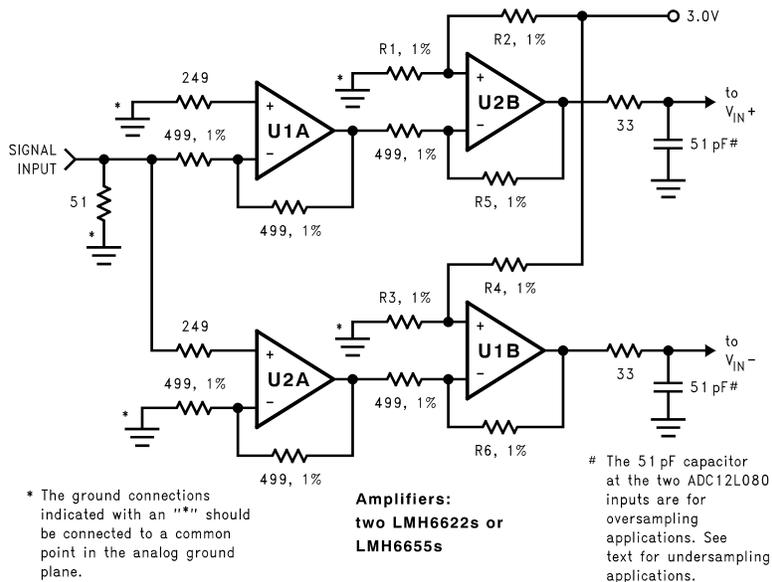

Figure 39. Differential Drive Circuit of Figure 38
The  $V_{IN+}$  and the  $V_{IN-}$  inputs of the ADC12L080 consist of an analog switch followed by a switched-capacitor amplifier. The internal switching action at the analog inputs causes energy to be output from the input pins. As the driving source tries to compensate for this, it adds noise to the signal. To minimize this, use 33 $\Omega$  series resistors at each of the signal inputs with a 51 pF capacitor to ground, as can be seen in Figure 39 and Figure 40. These components should be placed close to the ADC because the input pins of the ADC is the most sensitive part of the system and this is the last opportunity to filter the input. The 51 pF capacitor value is for Nyquist applications and should be replaced with a smaller capacitor for undersampling applications. The resulting pole should be at 1.7 to 2.0 times the highest input frequency. When determining this capacitor value, take into consideration the 8 pF ADC input capacitance.
Table 3 gives component values for Figure 39 to convert a signals to a range 1.0V  $\pm$ 0.5V at each of the differential input pins of the ADC12L080.
**Table 3. Resistor values for Circuit of Figure 39**
If the amplifier exhibits overshoot, ringing, or any evidence of instability, even at a very low level, it will degrade performance. A small series resistor at each amplifier output and a capacitor at each of the ADC analog inputs to ground (as shown in Figure 39 and Figure 40) will improve performance. The LMH6702, LMH6628, LMH6622 and LMH6655 have been successfully used to drive the analog inputs of the ADC12L080.